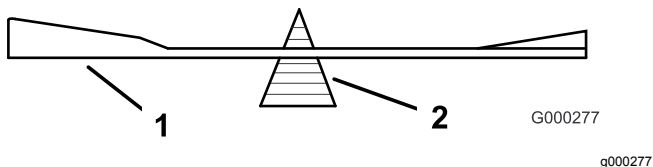

Figure 101
2. Check the balance of the blade by putting it on a blade balancer (Figure 101).